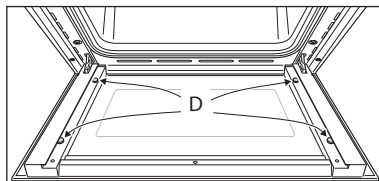

Fig. 18
– Check that the four rubber pads are in place (**D** in Fig. 18).
IMPORTANT: It is advisable, while refitting the glass, to keep pressed in position the four rubber pads “**D**”, by a finger, to avoid breakage or slippage of the rubber pads themselves (fig. 18).